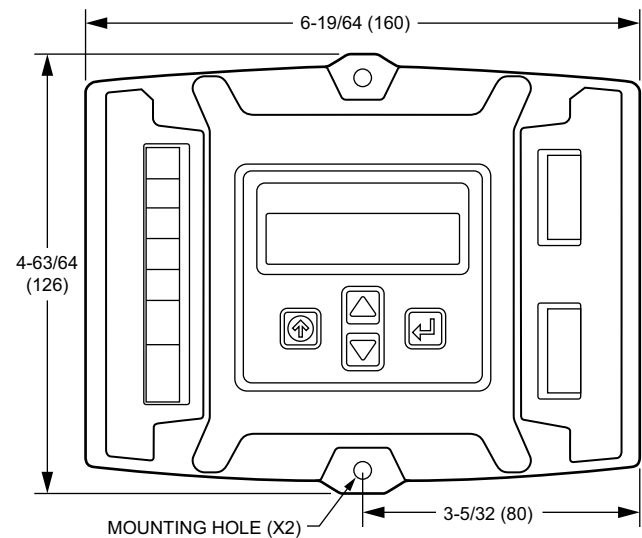

Fig. 5 - Dimensions for Mounting Holes in Inches (mm)
Dimensions (see Fig. 5, below):
1. Mounting — see Fig. 5 (on page 9).